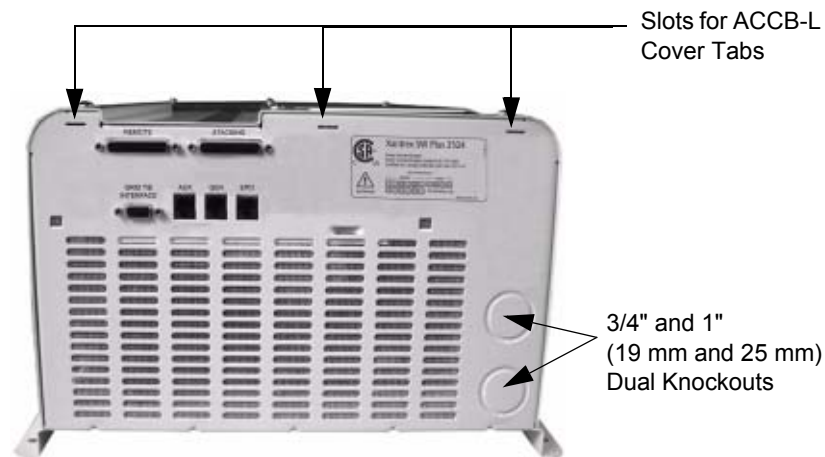

Figure 2-5 SW Plus Inverter, AC Side Showing Knockout Location
1. Remove the appropriate knockouts from the AC side of the inverter for cabling from the Long AC Conduit Box terminal block to the inverter terminal block. See Figure 2-5 for the size and locations of the knockouts on the Sine Wave Plus Inverter Charger.